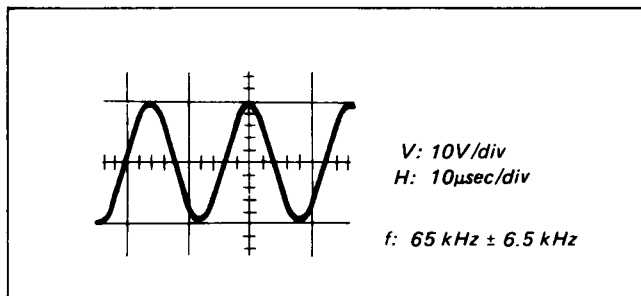

Fig. 5-28. Bias oscillator check
- (1) Input is no-signal, in recording mode.
- (2) Bring the oscilloscope probe close to T900 inside the shield case, via the frequency counter. Confirm that the oscillation frequency is 65 kHz  $\pm$  6.5 kHz. (See Fig. 5-28)
- (3) Connect the oscilloscope to IC900 pin ① and confirm that bias leak is 340 mV  $\pm$  100 mV.